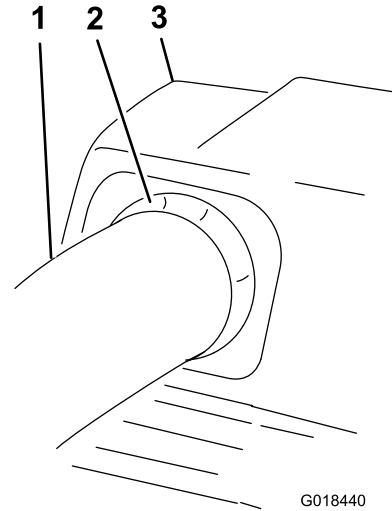

Figure 30
- 10. Pull the upper tube out slightly so that the seal extends outward and over the lower tube (Figure 30).
- Pull the upper tube out slightly so that the seal extends outward and over the blower assembly (Figure 30).